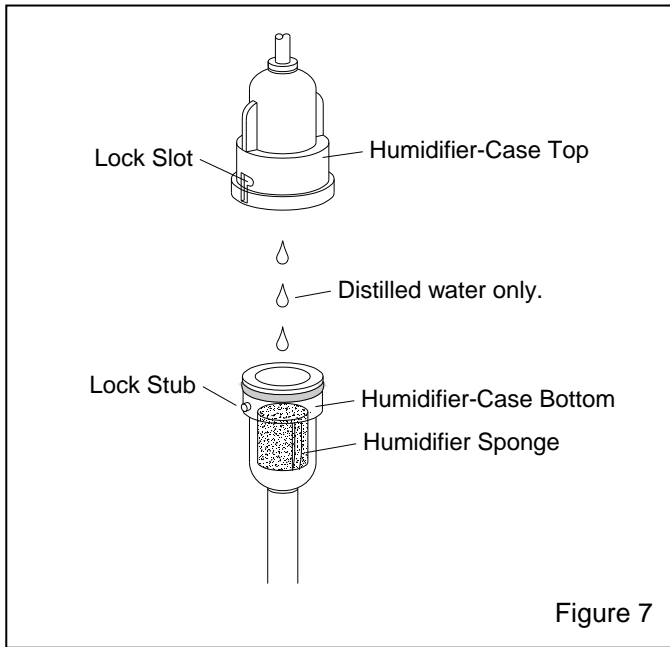

Figure 7
4.4.4 Moisten the sponge by putting in a few drops of distilled water, as shown in Figure 7. Shake out excess water. The humidifier needs only to be dampened; excess water must be removed so that it does not enter the instrument's plumbing.
4.4.5 Refer to Figure 7 and reassemble the humidifier by aligning the bottom-case lock stubs and top-case slots, push them together, and rotate the top clockwise to secure.